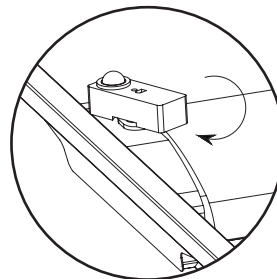
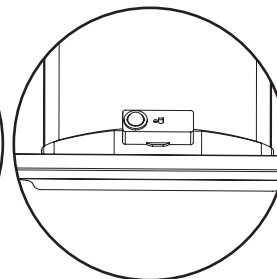

Fig. 3
Fig. 4
3.Rotate the sensor and align its edge to receptacle to ensure that it's installed securely.(Fig. 3 & Fig. 4)